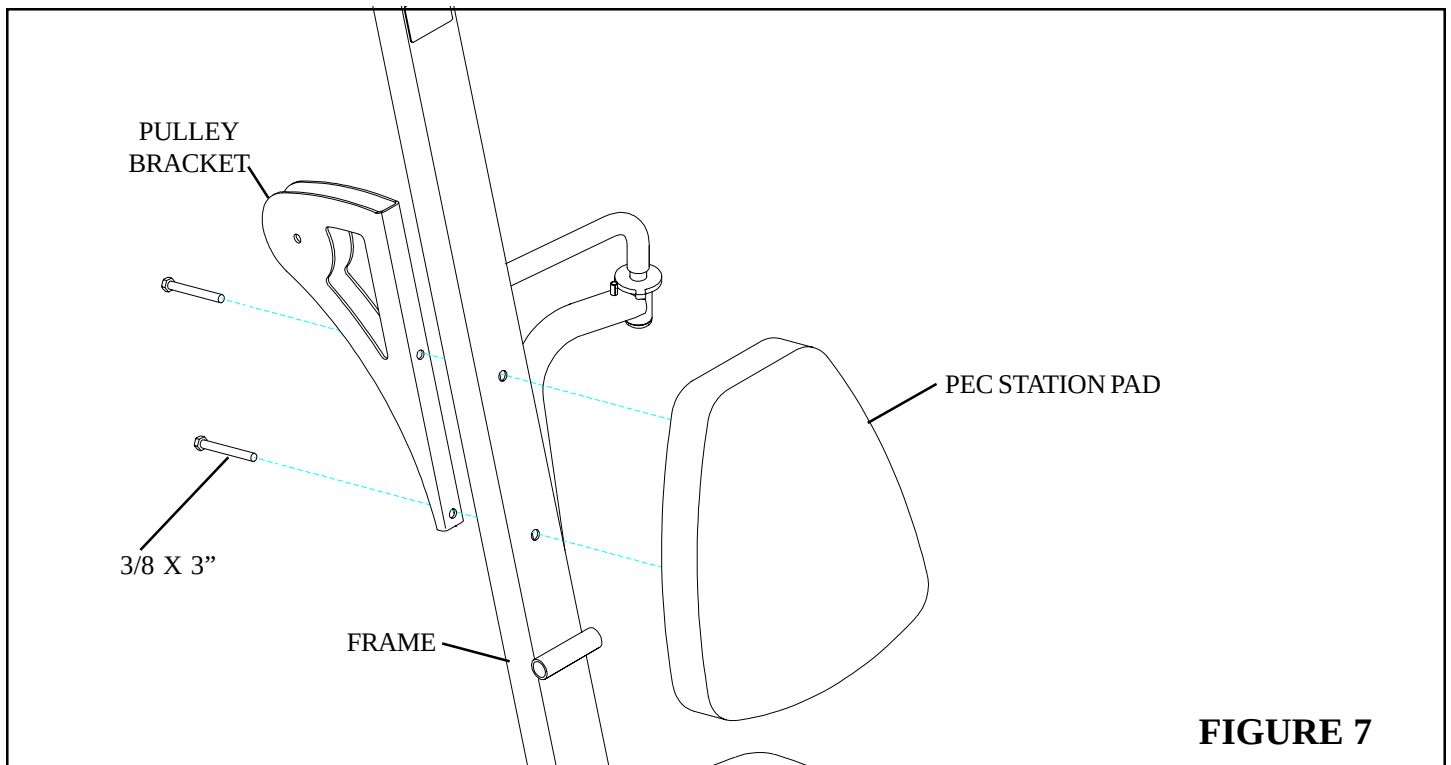

FIGURE 7
- Remove the PULLEY BRACKET, the PEC STATION PAD and two 3/8 X 3" BOLTS from the FRAME. Discard the PULLEY BRACKET. See FIGURE 7.